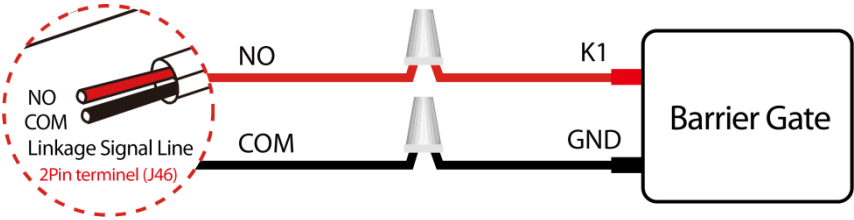

Figure 3-8
**Step 8:** The User can connect the linkage signal line with the barrier gate according to the needs to realize the linkage function of the Walk Through Metal Detector and the barrier gate. The wiring circuit diagram is shown in the figure 3-8 below.